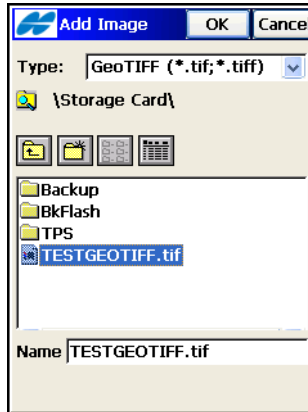

Figure 6-48. Add Image
- **Add** – opens the *Add Image* screen (Figure 6-48 on page 6-43) to browse the controller's directories for the desired file.
The *Add Image* screen (Figure 6-48) selects an image file to add to the *Background Images* list.